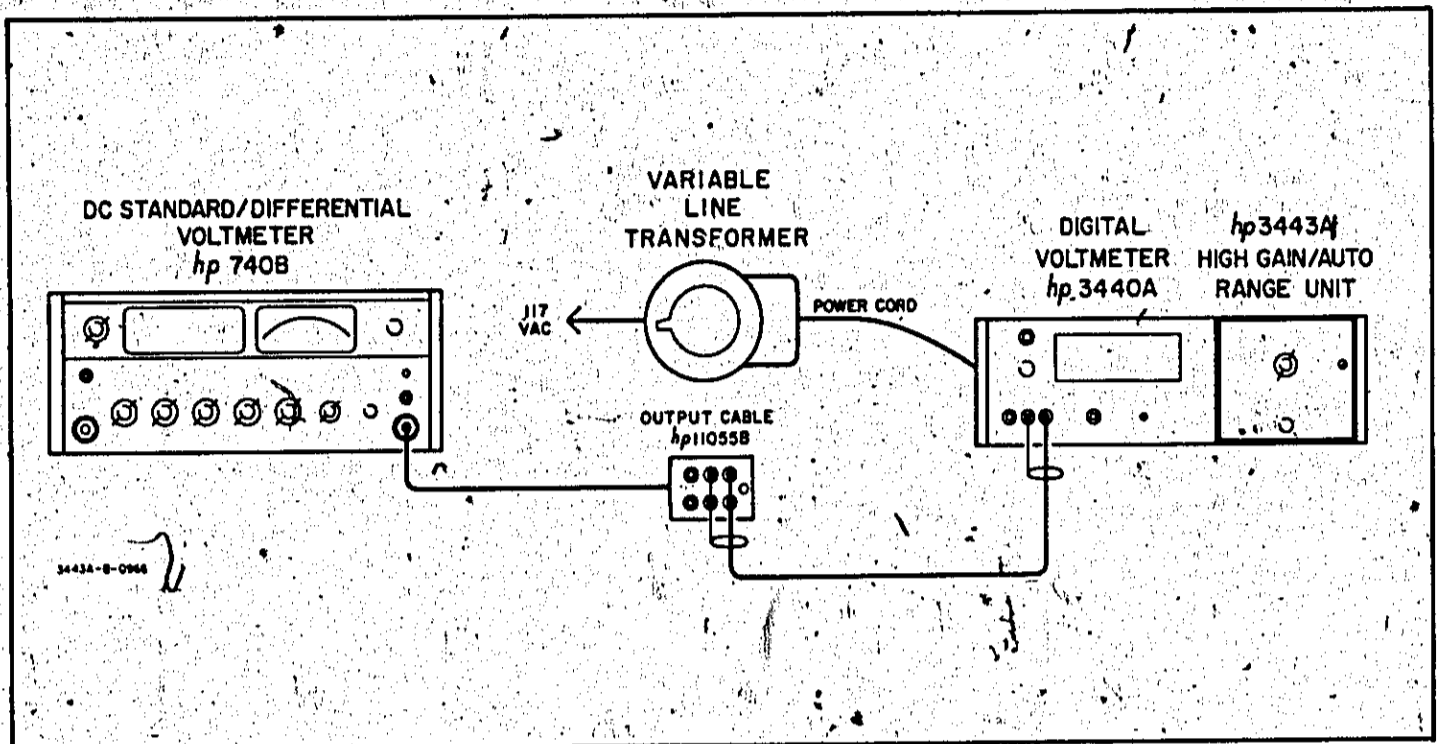

Figure 5-1. Performance Check Setup
- a. Connect Model 3443A as shown in Figure 5-1.
- a. Connect 3443A as shown in Figure 5-1.
- Connect 3443A as shown in Figure 5-1.
- Connect Model 3443A as shown in Figure 5-1.